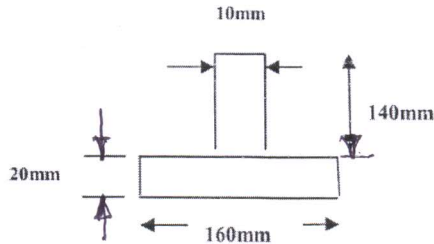

Figure7.1
c) Cross section of beam in following figure is subjected to sagging bending moment. Find shape factor if permissible yield stress in compression and in tension are 190 MPa and 280 MPa respectively.(Figure 7.1)